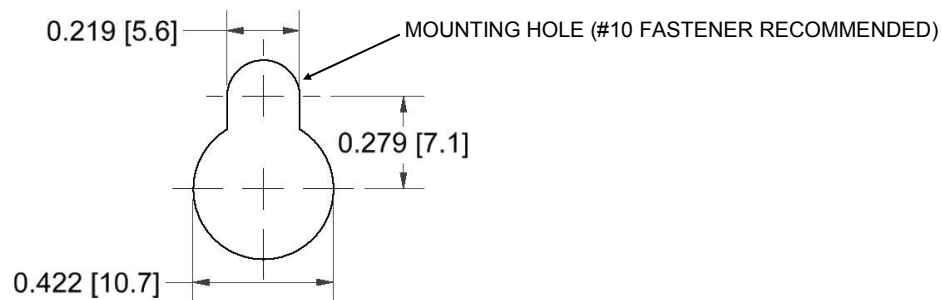

Figure 4.2a
1. The STRIKE™ Control Unit enclosure contains (4) mounting holes as detailed in Figure 4.2a.